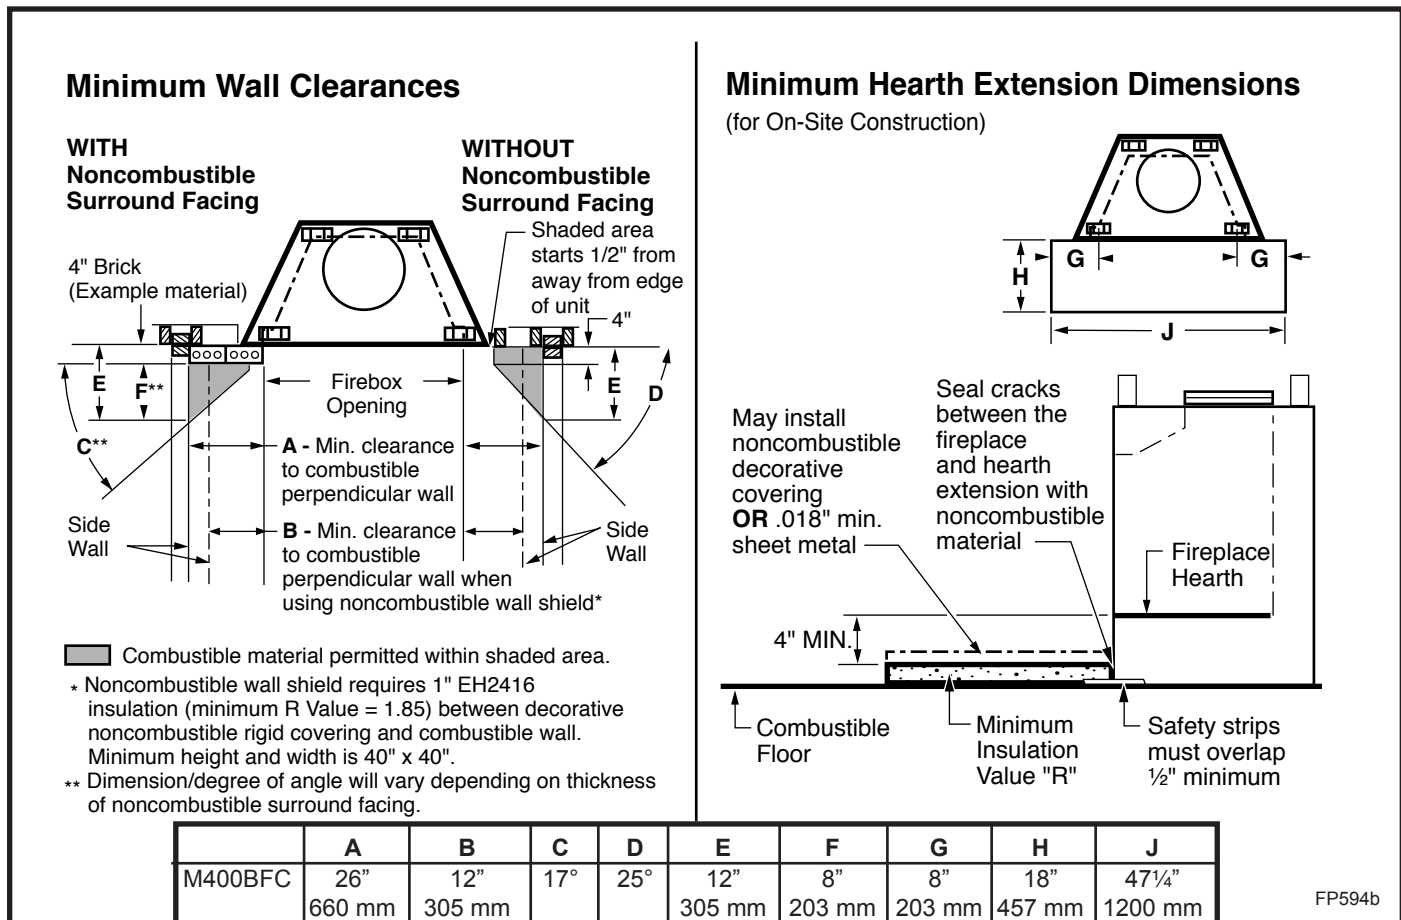

Fig. 21 Combustible side wall protection and hearth extension dimensions.
A hearth extension is required to protect a combustible floor in front of the fireplace. Refer to Figure 21 for minimum dimensions and mounting detail.
The hearth extension described in Figure 21 must be a durable non-combustible material with a minimum (total) Rt value of 1.09; refer to Figure 22 for examples. The overall height (above a combustible floor), depth and width must be as indicated, with the extension centered to the fireplace opening.
The top of insulation must be covered with a non-combustible decorative covering **or** a piece of .018" minimum sheet metal, to protect hearth extension material. (Fig. 21)
Secure the hearth extension to the floor to prevent shifting, using trim molding or other similar means at three (3) outer edges. Seal crack between the fireplace hearth and hearth extension with a non-combustible material. (Figs. 21 and 23)